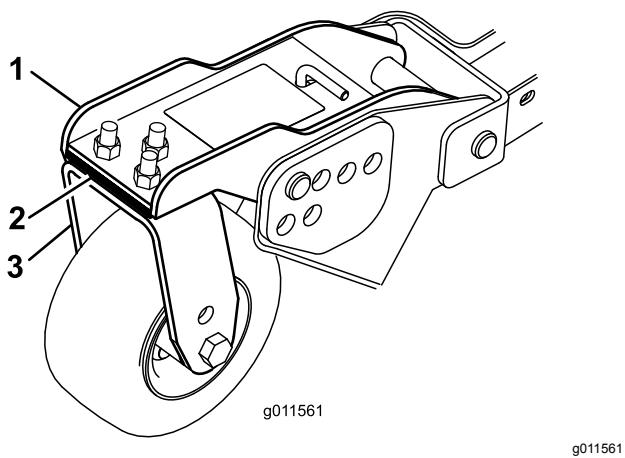

Figure 31
3. If the inside edge of the side cutting unit is too high relative to the outside edge of the front cutting unit, remove one 3 mm (1/8 inch) shim from the bottom of the front inside castor arm on the side cutting unit (Figure 31). Recheck measurement between outside edges of both side cutting units and inside edge of side cutting unit to outside edge of front cutting unit.
Rotate blade of each spindle until the ends face forward and backward. Measure from the floor to the front tip of the cutting edge. Adjust 3 mm (1/8 inch) shims on front castor arm(s) to match height of cut to decal (Figure 31). For the outside blade spindle only, refer to Adjusting the Cutting Unit Pitch.